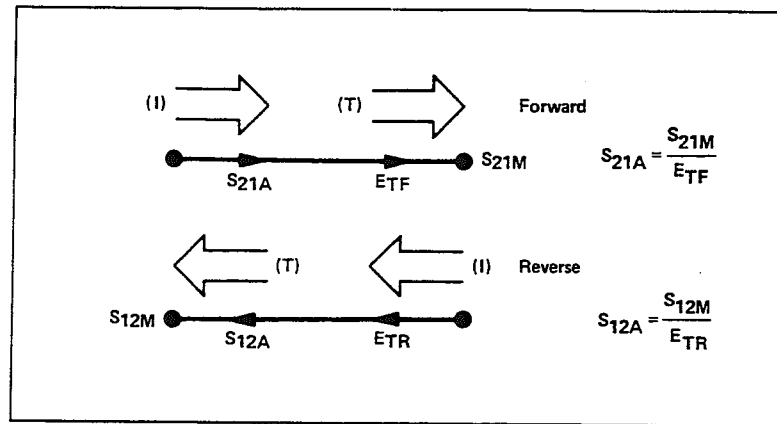

Figure 7-60. Transmission Coefficient
Measuring Transmission Coefficient. The transmission coefficient is measured by taking the ratio of the incident signal (I) and the transmitted signal (T) (Figure 7-60). Ideally, (I) consists only of power delivered by the source, and (T) consists only of power emerging at the test device output.